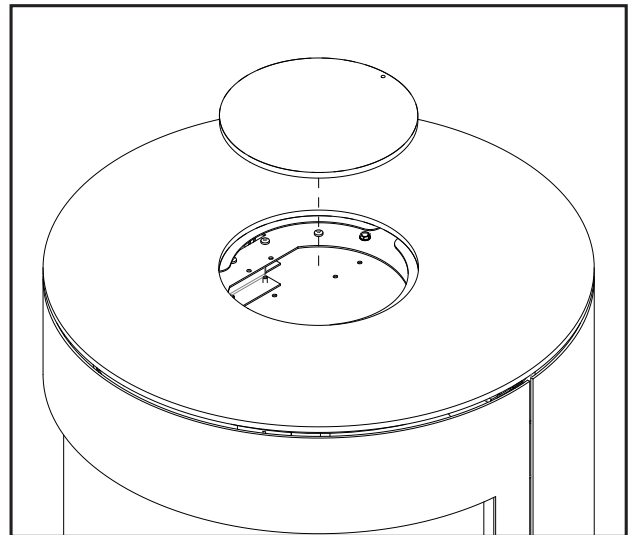

Figure 77: Top Plate Blank
15. Place the top plate blank (included with the unit) into the top plate (see Figure 77).